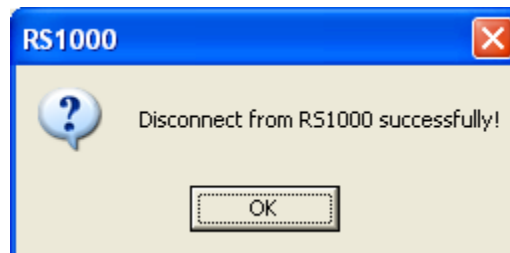

Fig. 31
Step 1: Leave the tester **ON**. Click on the “Disconnect” icon  in the software. The following screen will be shown: (Fig. 31)